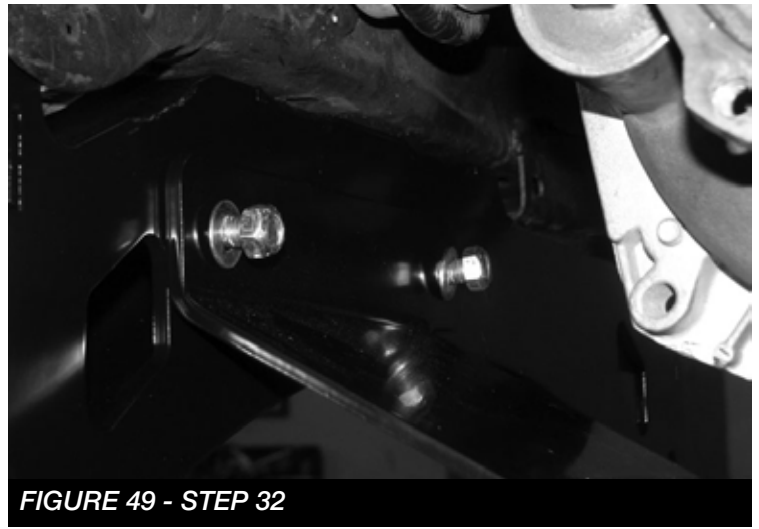

FIGURE 49 - STEP 32
32. Locate FT20657BK (front skid plate) using the provided hardware, install the skid plate by using the 7/16"-14 x 1-1/2" bolts, washers and nuts to the front crossmember. **Torque to 83 ft-lbs.** Use the 1/2"-13 x 1-1/2" bolt, washer and nut on the rear crossmember. Torque to 127 ft-lbs. **SEE FIGURE 49**